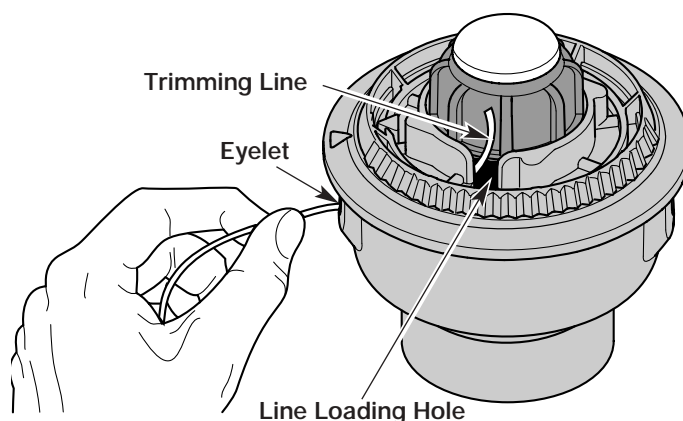

Fig. 15
4. Insert a piece of trimming line straight into one of the two eyelets in the outer spool. Push it up through the line loading hole in the inner reel (Fig. 15). Do not bend the line when inserting it into the eyelet.